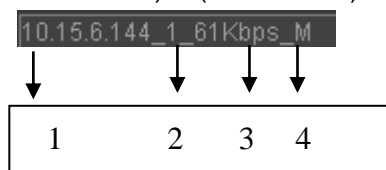

Figure 5-9
On the top left corner, you can view device IP (10.15.6.144), channel number (1), network monitor bit stream (61Kbps) and stream type: M (Main stream)/S (Sub stream). See Figure 5-9.